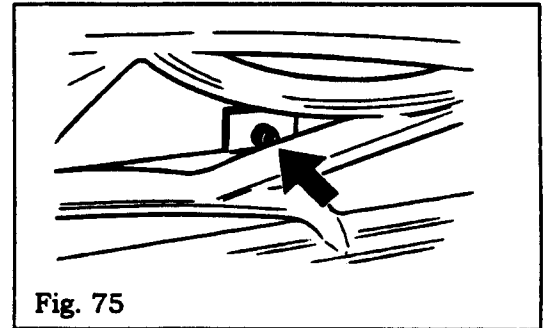

Fig 75
19.2.11 Screw the thumbscrews in to the fix brackets that were attached to the engine earlier. (Fig 75.)